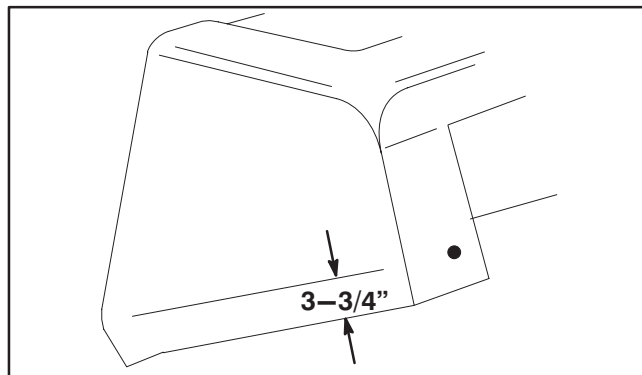

Figure 8
4. On each side of coring head cover only, measure 3-3/4" up from bottom trimmed surface and scribe a parallel line (Fig. 8).